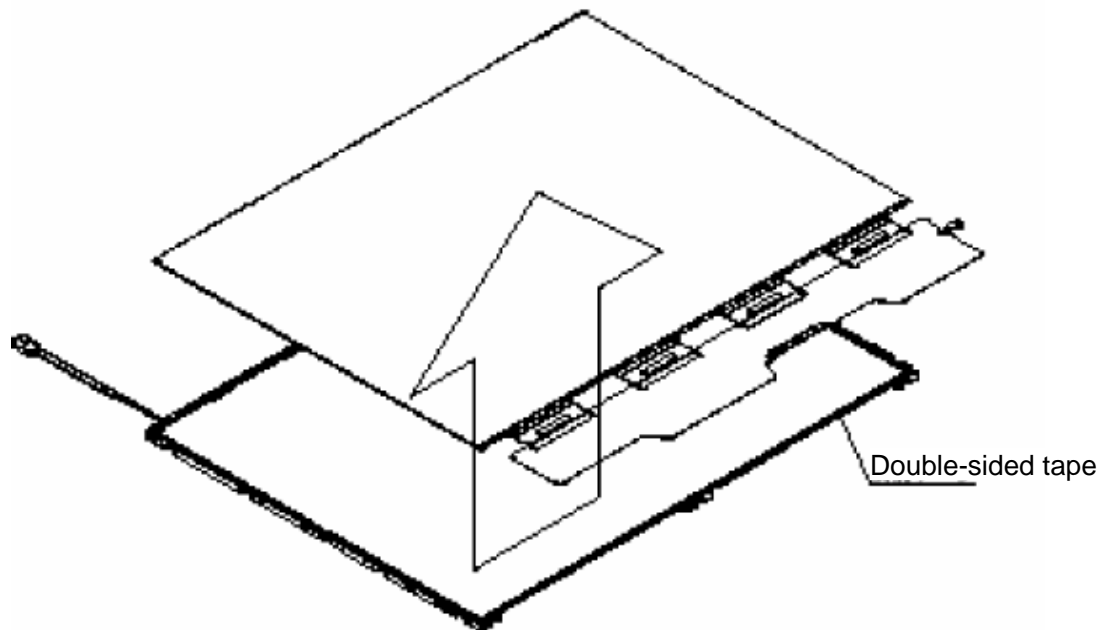

Figure 4-73 Replacing TMD fluorescent lamp (XGA) (5)
1. Remove the PCB- assembly cell from the backlight unit, as shown in Figure 4-73.
CAUTION: (1) Remove the tape slowly not to break the cell. The cell and frame are glued by double-sided adhesive tape (as shown in Figure 4-73).
(2) Be careful not to remove the light shielding tapes from the upper, left and right sides of the cell.